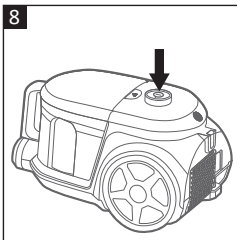

Fig. 8
- Press the Power button (13) to turn the vacuum cleaner on (**Fig. 8**).
1. Press the Power button (13) to turn the vacuum cleaner off (**Fig. 8**).